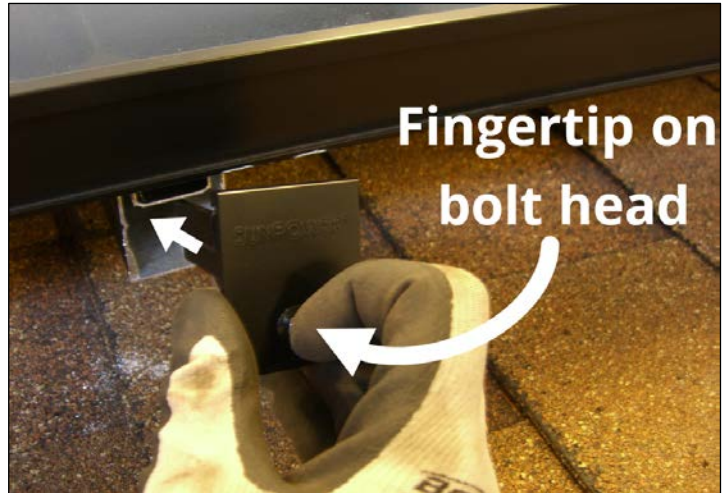

Fig. 16
3. With the SunPower logo upward and the engagement mechanism downward, insert an end clamp into each of the rail ends by holding the clamp with your thumb and middle finger, and pressing on the bolt head with your index finger as you slide the clamp as far into the rail as possible (Fig. 16). If the clamp does not slide in easily, push or tap on the bolt head.